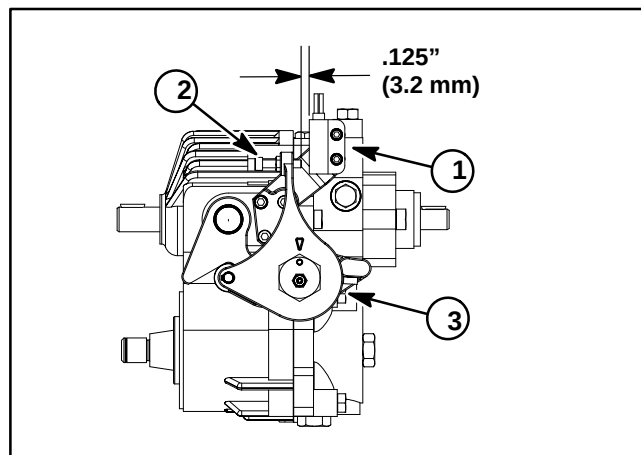

Figure 22
3. Rotate socket head screw so the clearance between end of the socket head screw and neutral switch is .125" (3.2 mm) (Fig. 22).